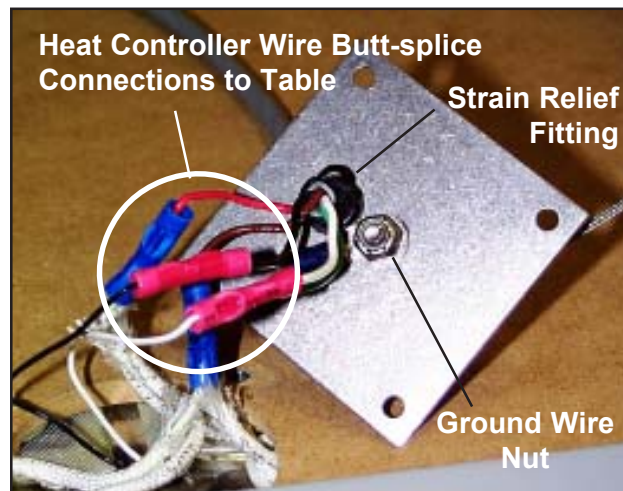

Figure 24. Wire Connections Under Plate
4. Lift off the plate to reveal the heat controller wire connections underneath (Figure 24).
11. With a pliers, squeeze the moveable segment of the strain relief fitting inward, and pull the cord out of the plate (Figure 24).